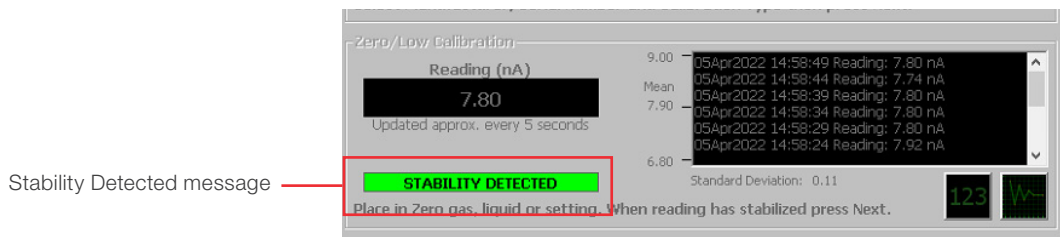

Figure 3.24. Stability Detected message for first calibration point.
6. Once the **Zero/Low** reading is stable (Figure 3.24), click **Next**.